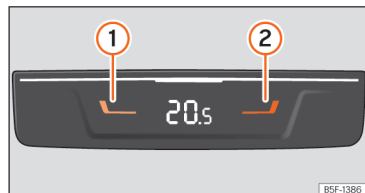

Fig. 113 In the centre console, rear section: controls for the rear seats.
- Press buttons **1** and **2** **>>> Fig. 113** to adjust the temperature of the rear zone.